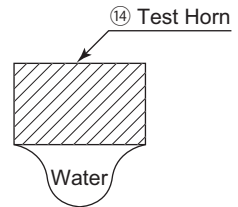

Fig. 15
- (1) Mount the Test Horn ⑭ securely on the Handpiece ②.
- (2) Set the UNCLAMP (  ) / CLAMP (  ) Switch ⑤ to UNCLAMP mode (  ), and the Power Control Knob ⑨ to MIN.
- (3) Put a drop of water on the Test Horn ⑭ (Fig. 15).